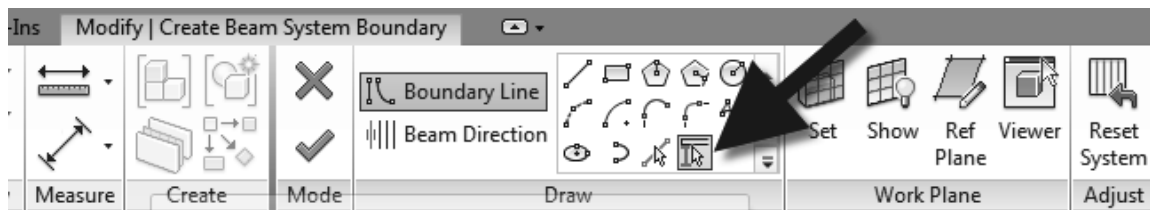

FIGURE 8-4.15 Ribbon: Beam system tool while in Sketch mode
39. Click the *Pick Supports* icon in the *Draw* panel of the *Ribbon* (Figure 8-4.15).